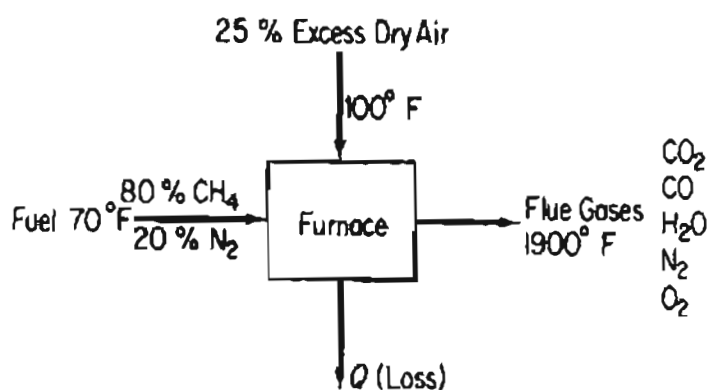

Figure P30.4
- 30.4 How many variables must be specified for the furnace shown in Figure P30.4 to absorb all the degrees of freedom?